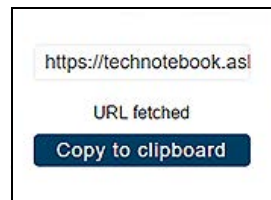

Figure 14-12
2. Select **Copy to Clipboard** (*Figure 14-12*) from the pop-up window.